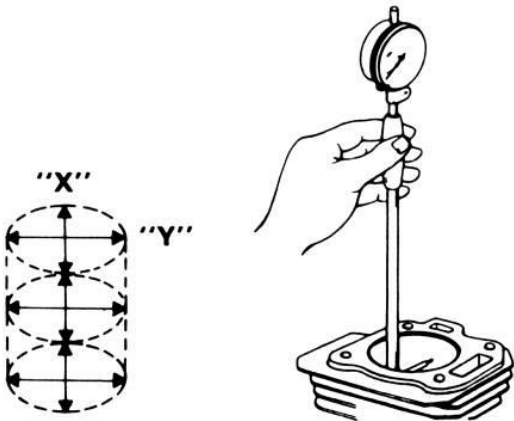

Figure 4-31: Checking Cylinder Taper (typical)
3. See Figure 4-31. Measure the top, middle and bottom of the cylinder bore at the X and Y axis.